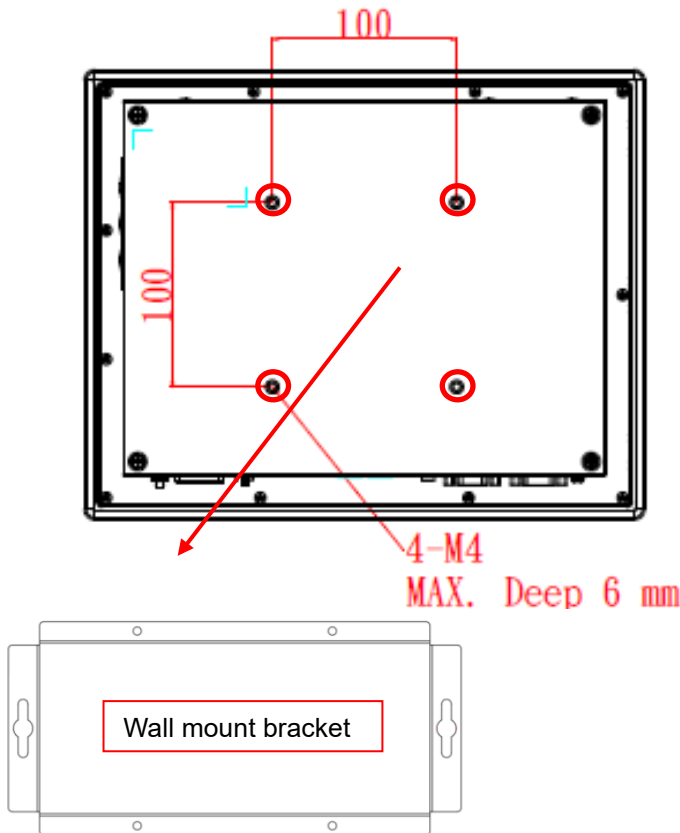

Figure 2-7: Wall mount screwing holes on the back chassis
Step 1 On the back chassis of the panel PC, locate the screwing holes for assembling the wall mount bracket, as shown in Figure 2-7.